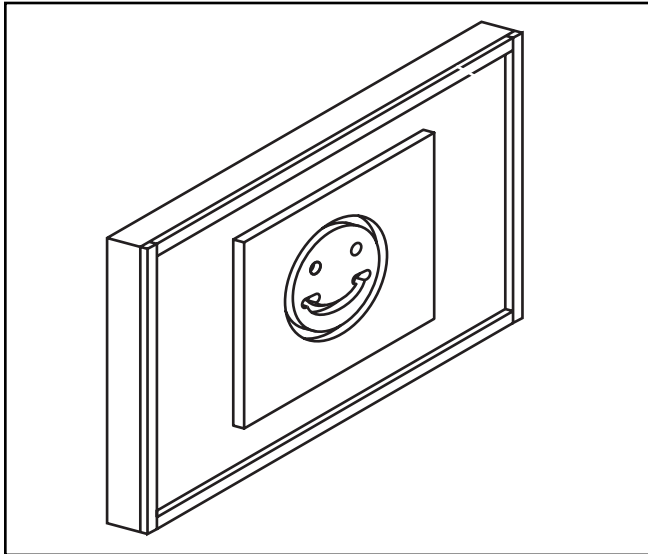

Figure 24. Bottom side of the pattern template.
5. Cut (4) 1/2" wide strips of the same birch plywood used for the pattern. Glue them on the four sides of the MDF, on the same side as the pattern. These will serve as runners to keep the whole assembly level when performing the routing operation as shown in **Figure 24**.